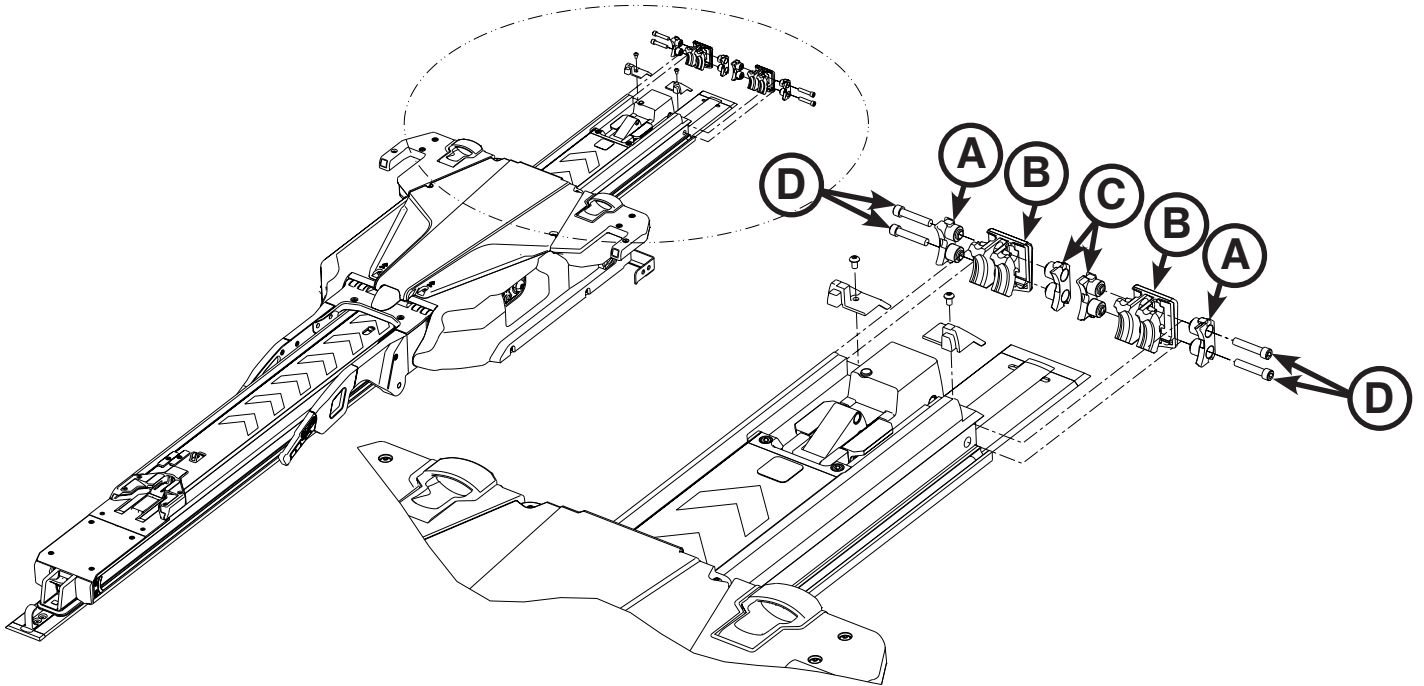

Figure 23: Assemble Bumper Block
- Assemble the bumper block by aligning the supplied dead stop block (6390-001-244) (with through holes) (A) with the supplied dead stop bumper (6390-001-243) (B) and the supplied inner dead stop block (6390-001-246) (with threaded holes) (C) as shown in Figure 23.
- Using a 3/16" hex wrench, install the four supplied socket head cap screws (0004-662-000) (two for each side) (D) into the transfer assembly as shown in Figure 23.